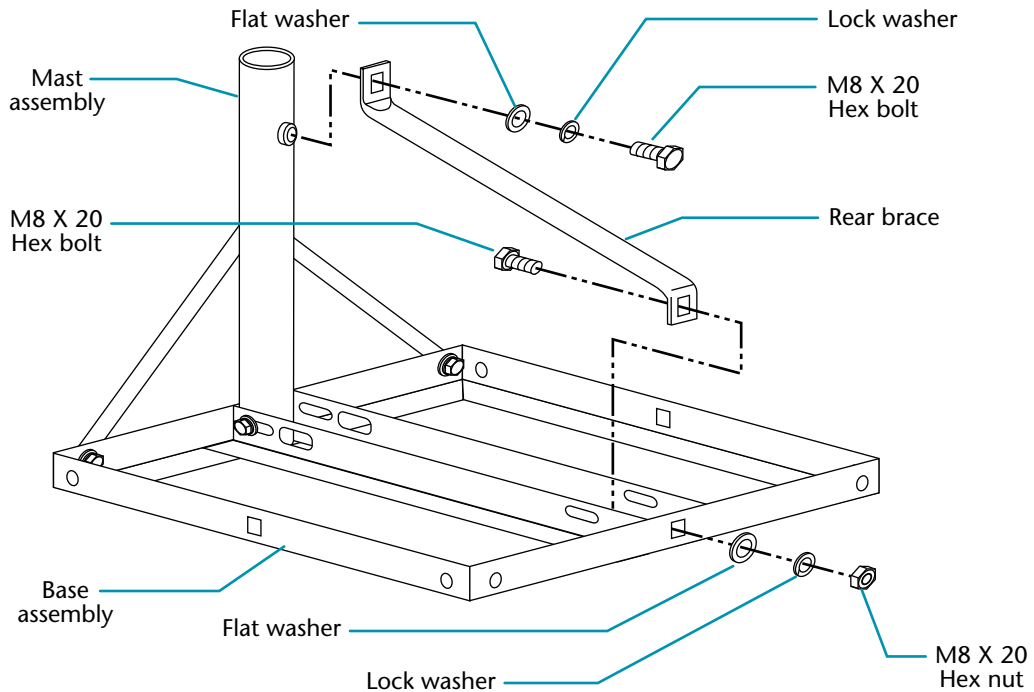

Figure 4-9. Assembling rear brace to mast and base
7. Secure rear brace to mast using an M8 X 20 hex-head bolt, lock washer, and flat washer (see figure 4-9). Pull up on brace so that outer edge of flat washer is seated against brace bend.
8. Secure brace to base using an M8 X 20 bolt, lock washer, and hex nut (see figure 4-9). Push down on brace to lock hex-head bolt when tightening hex nut.